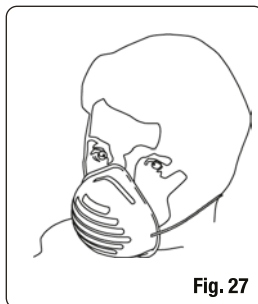

Fig. 27
- c) Wear a mask to protect your nose and mouth (fig. 27).